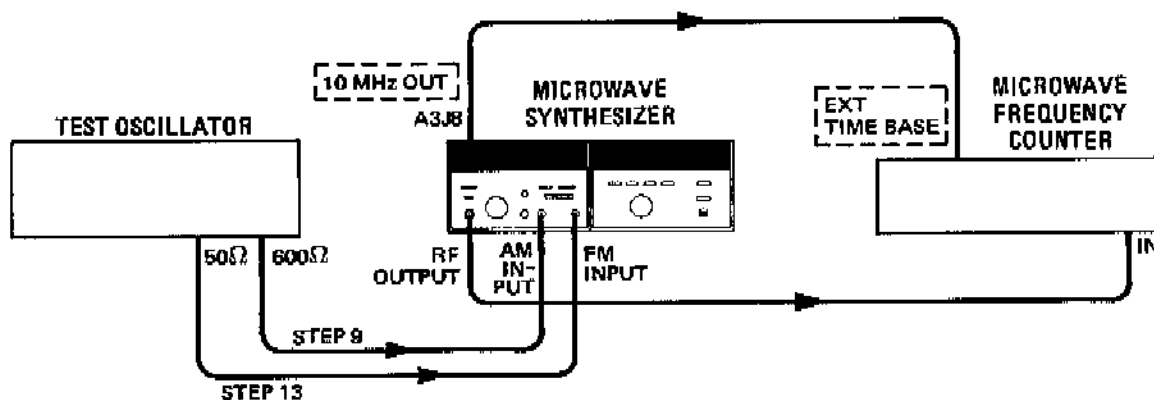

Figure 3-3. Operator's Frequency and Modulation Checks Test Setup
3. Press one at a time, the four FREQUENCY RESOLUTION keys 13 and the Frequency Resolution Light Bars 8 should light one at a time and remain lit. Rotate the TUNING control 14 clockwise and then counter-clockwise and note that the digits displayed in the FREQUENCY display 8 increase and then decrease in order as the TUNING control 14 is turned. Perform this step as each of the four FREQUENCY RESOLUTION keys 13 are pressed. The first key on the left produces resolution in 100 MHz steps, the second key 1 MHz steps, the third key 10 kHz steps, and the fourth key 1 kHz, 2 kHz, or 3 kHz steps, depending upon the frequency band. Pressing the fourth key first will cause all four of the Frequency Light Bars 8 to light and will produce the highest tuning resolution. Pressing the HOLD 10 pushbutton causes the Light Bars 8 to extinguish and prevents the TUNING control 14 from changing the frequency displayed.
4. Connect the microwave frequency counter to the Synthesizer as shown in Figure 3-3.
9. Apply power to the test oscillator, set the frequency to 10 kHz and the output level to 0 Vrms. Connect the test setup as shown in Figure 3-3.